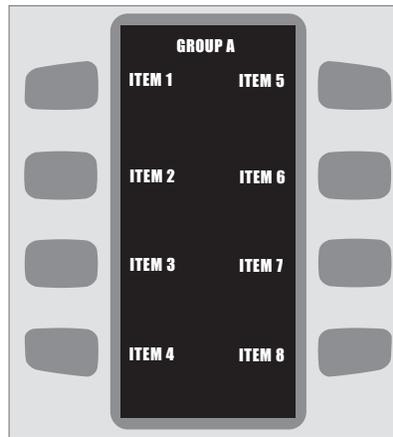

FIGURE 8: Edit Groups
3. Select the Recipe Group which contains the individual Recipe you wish to alter. Select which Recipe you wish to alter by pressing the Soft Key corresponding to the Recipe Item. Figure 8.